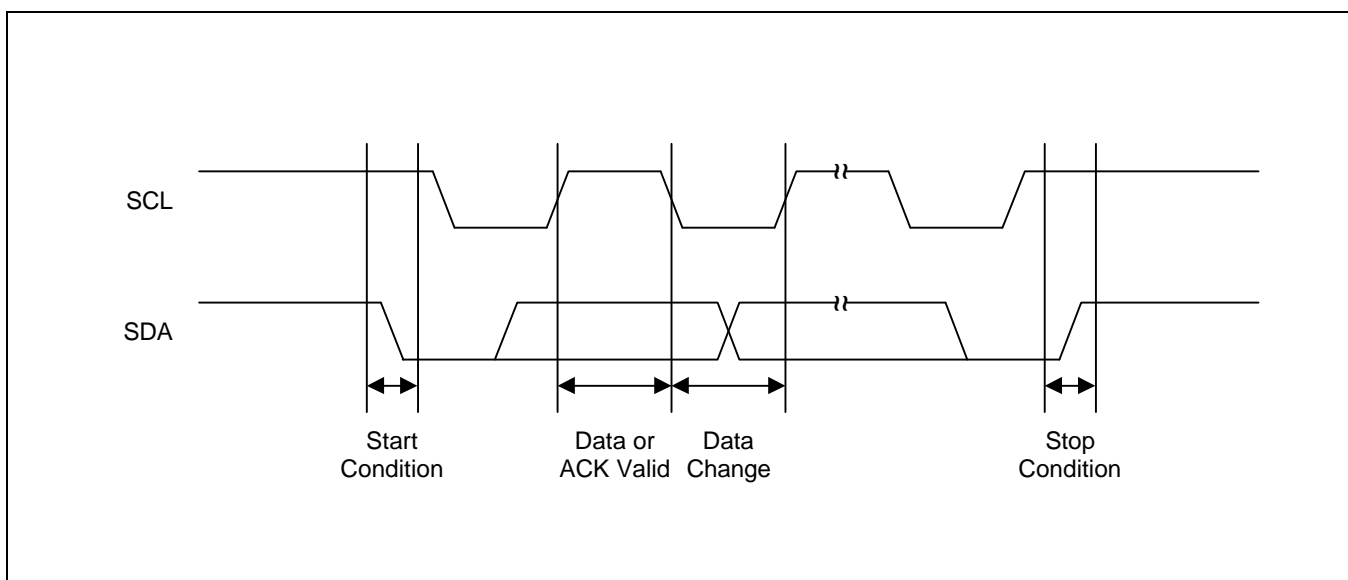

Figure 6-7. Data Transmission Sequence
- **Stop condition:** A stop condition is initiated by a Low-to-High transition of the SDA line while SCL remains in High level. All bus operations must be completed by a stop condition (see Figure 6-7).